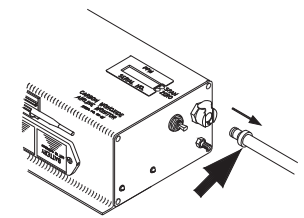

Figure 4
4. Remove the air sample inlet tube (Figure 4).